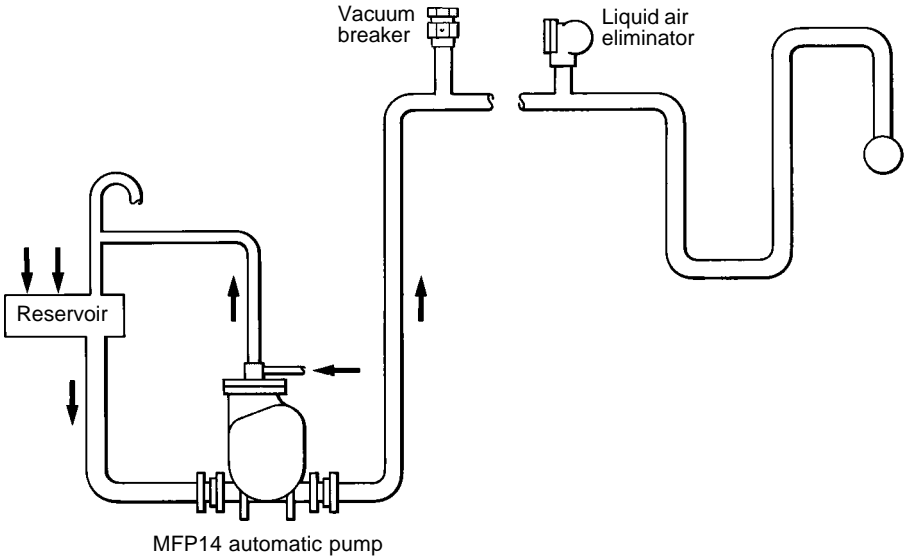

Fig. 13 MFP14 automatic pump discharging to long delivery line
**Check and cure 4a**      Install a vacuum breaker at the top of the lift (at highest point in return line). For pressurised return systems an air eliminator may be required downstream of the vacuum breaker (See Fig 13).